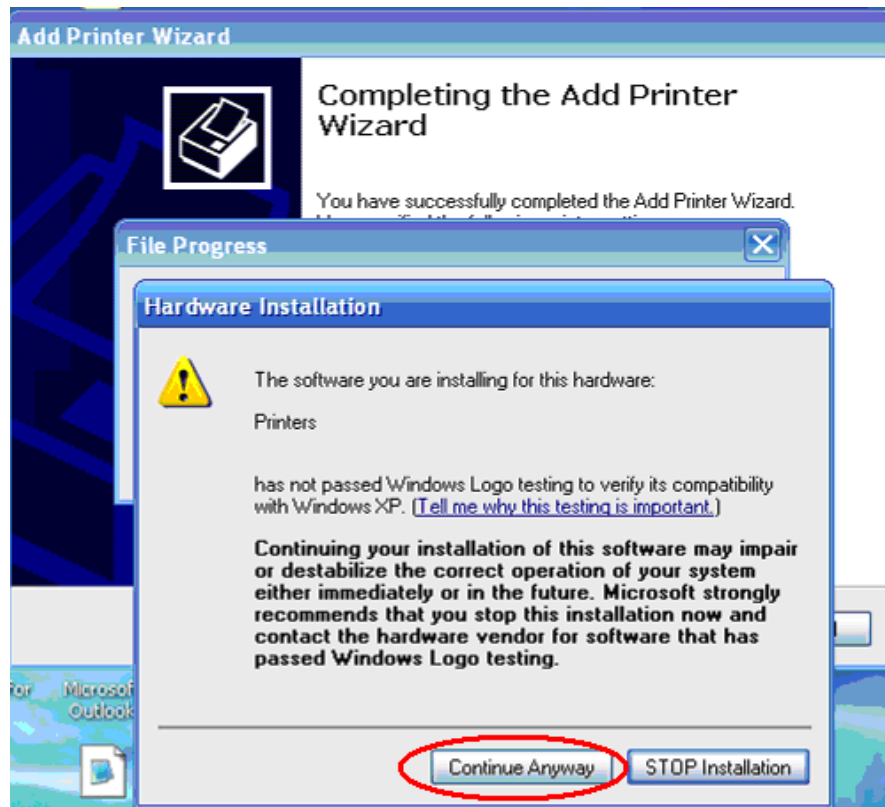

Figure 42 - Continue Window
*Note that **Figure 42** shows two screens that may not appear during the driver installation in **Win 7.***